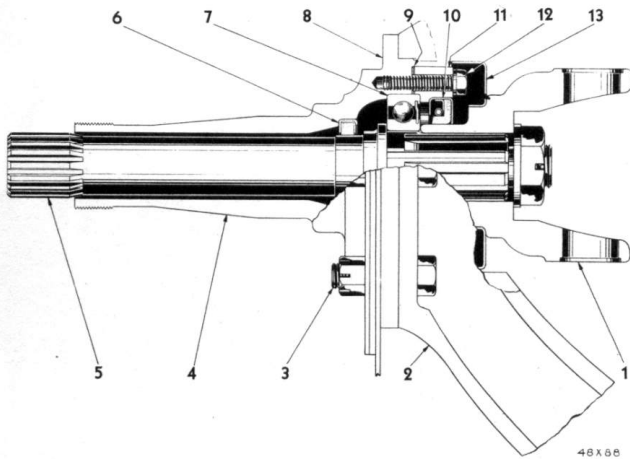

Fig. 103—Sectional View of Rear Wheel Drive Shaft Arrangement
89. ADJUSTMENT OF WHEEL-DRIVE-SHAFT BEARING (FIG. 103)